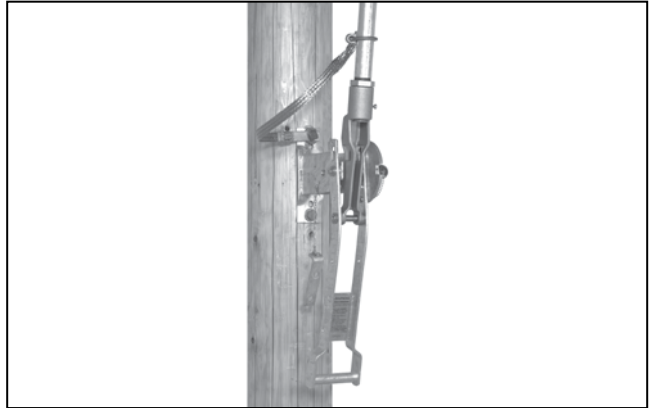

Figure 24. Withdrawing locking bar and disengaging key interlock bolt.
- (a) Remove the padlock(s) from the locking bar on the operating-handle assembly. See Figure 24.